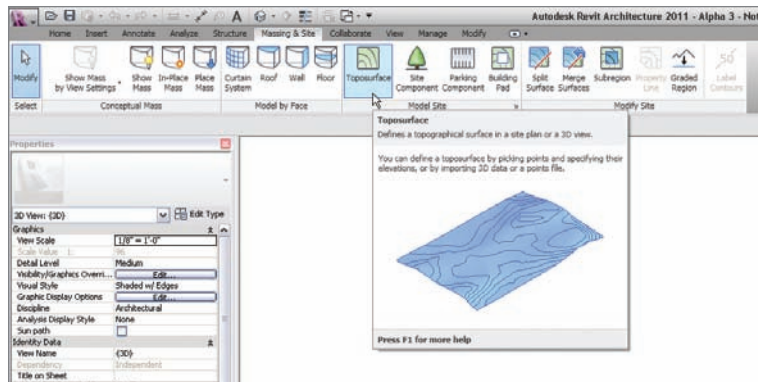

FIGURE 18.1 Click the Toposurface button on the Site tab of the Design bar.
2. On the Massing & Site tab, click the Toposurface button, as shown in Figure 18.1.